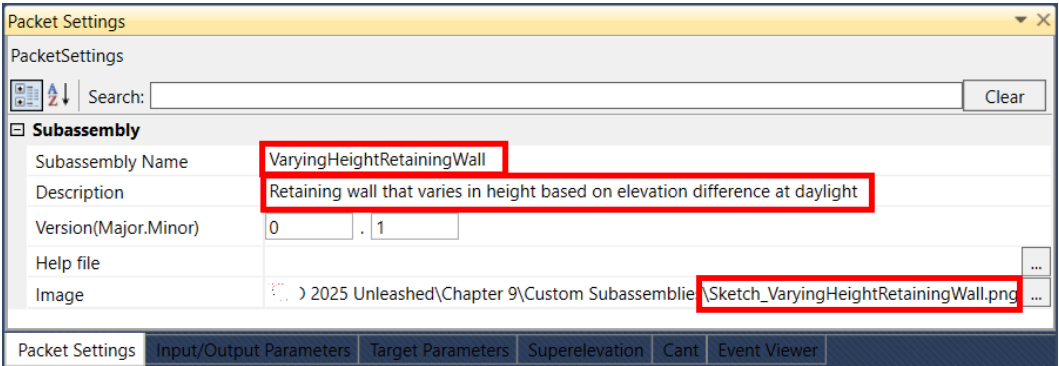

Figure 9.7 – Sketch of VaryingHeightRetainingWall
- **Image** (refer to *Figure 9.7* for full path): Sketch\_VaryingHeightRetainingWall.png
These fields are shown in *Figure 9.7*: